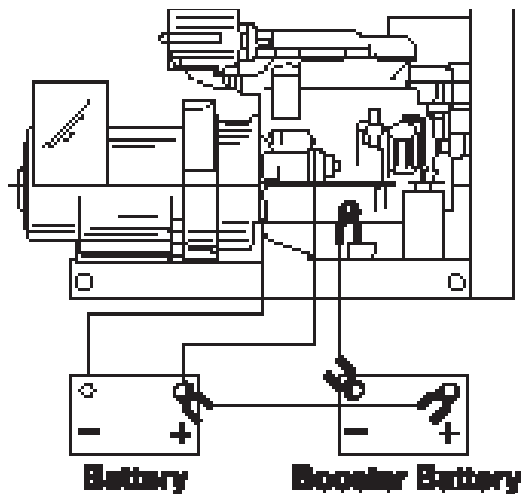

Figure 16: *Booster Battery Connections*
3. First, connect the positive (+) terminal of the booster battery to the positive (+) terminal of the main battery. Then, connect the negative (–) terminal of the booster battery to ground on the engine block (Figure 16).